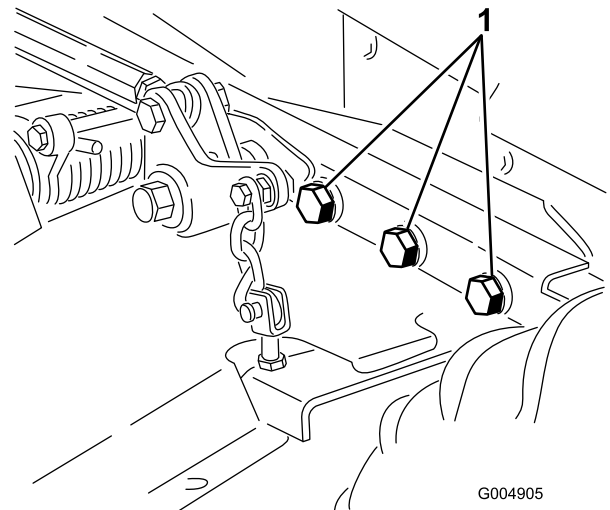

Figure 79
4. Check all fasteners for looseness and tighten them as necessary. Especially torque the 6 bolts securing the mower deck frame to the traction unit (Figure 79) to 265 ft-lb (359 N·m).